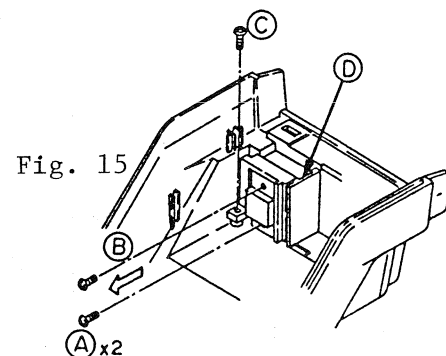

Fig. 15
- 5.2 Remove two screws [A] (Fig. 15) and remove the shield in the [B] direction.
- 5.3 To remove the lens (CF4-0643), remove screw [C] (Fig. 15)